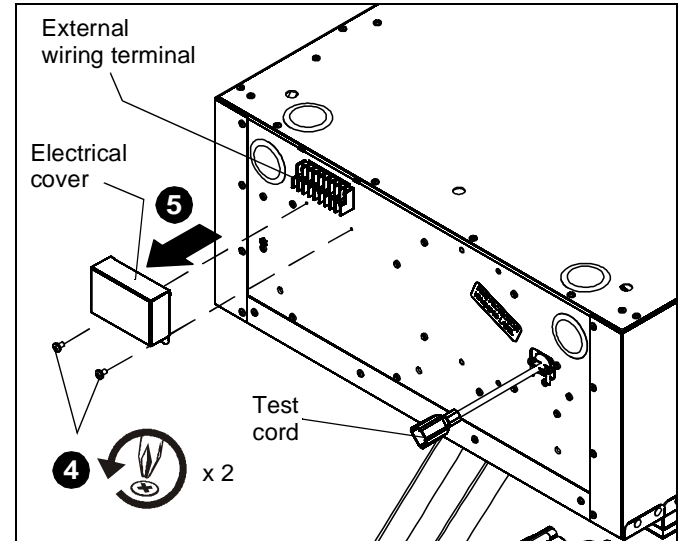
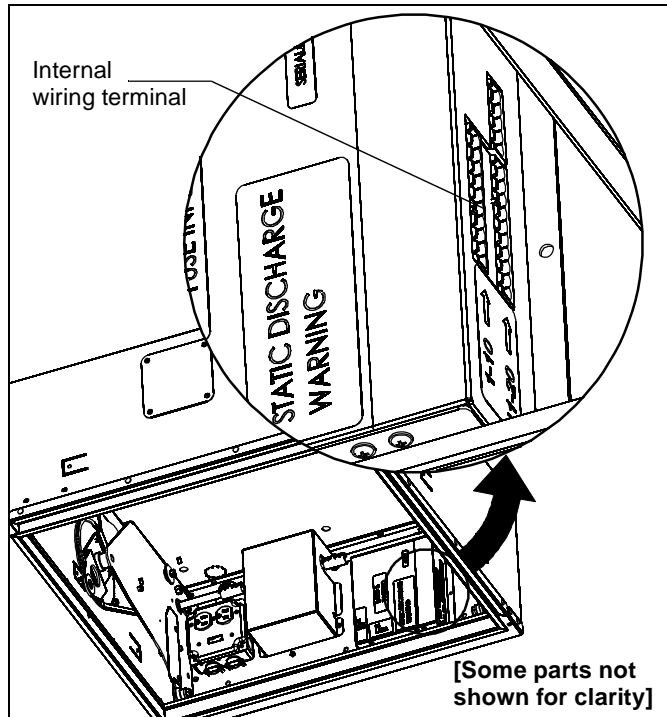

Figure 2
Figure 4
4. Remove and save two screws holding side electrical cover in place. (See Figure 2)
5. Remove electrical cover. (See Figure 2)
7. Plug the SL236i test inlet in using the supplied 6 ft. power cord (J). (See Figure 2)
NOTE: (See Figure 2) for location of external wiring terminal. (See Figure 4) for location of internal wiring terminal.